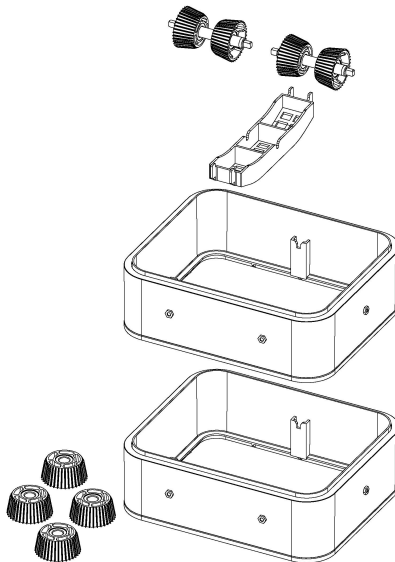
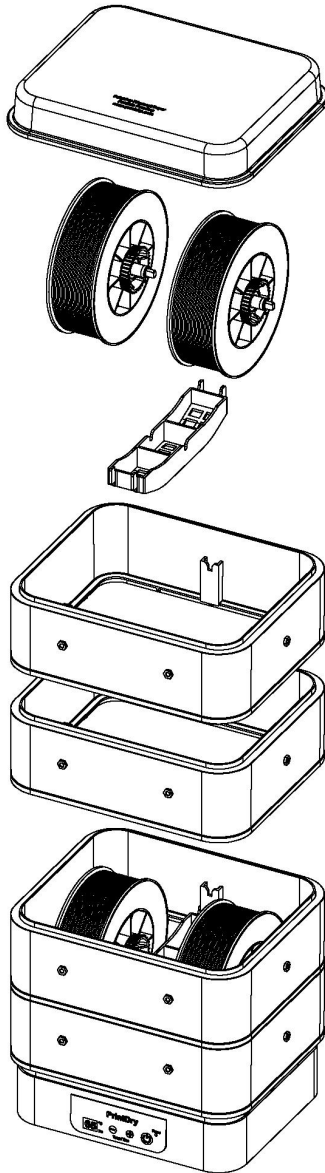

Fig.8 Additional Chamber Kit
Fig.9 Use of Additional Chamber Kit (ACK-PRO)
- An additional chamber kit (Fig. 8) can be added on top to hold 2 additional filament spools, as shown in Fig. 9.